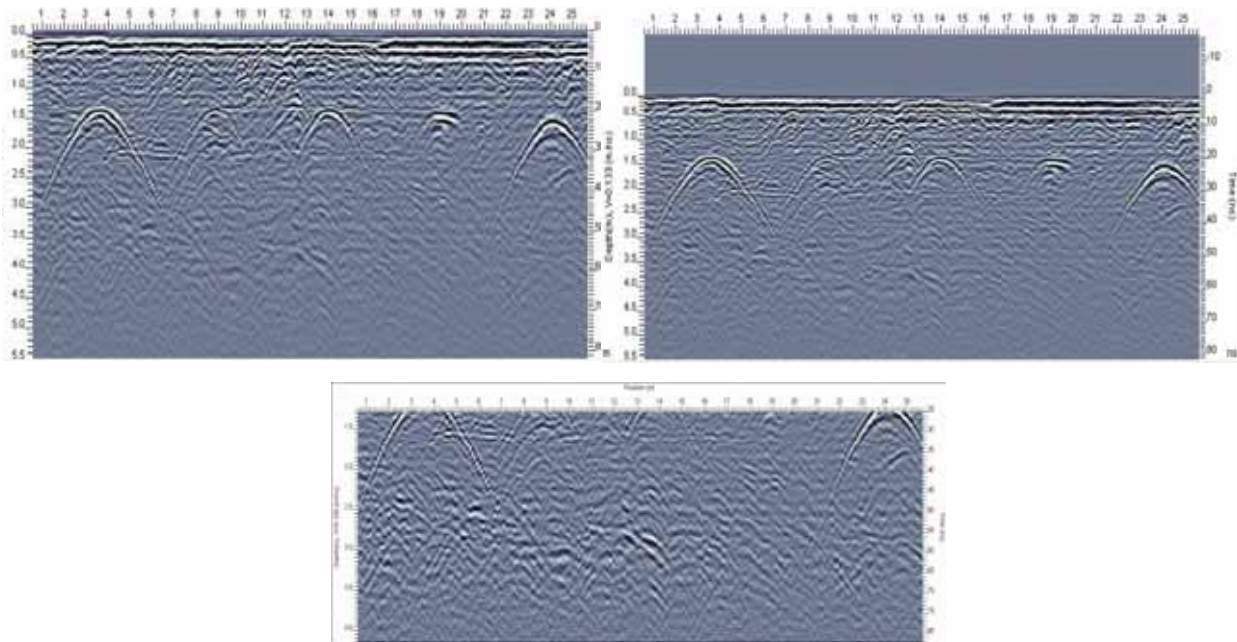

Figure 7-27: Zero Time (top left), Min Time (top right) and User Time (bottom) settings for the Top Time Limit.
The Top Time Limit option allows the user to set the minimum time displayed on cross-section images (**Figure 7-27**). There are 3 options for this setting:
- 3) **User Time** allows the user to input the minimum time to be displayed in the cross-section image. **Be cautious when using a positive top User Time because it will remove data at the top of the cross-section image (Figure 7-27, bottom image).**